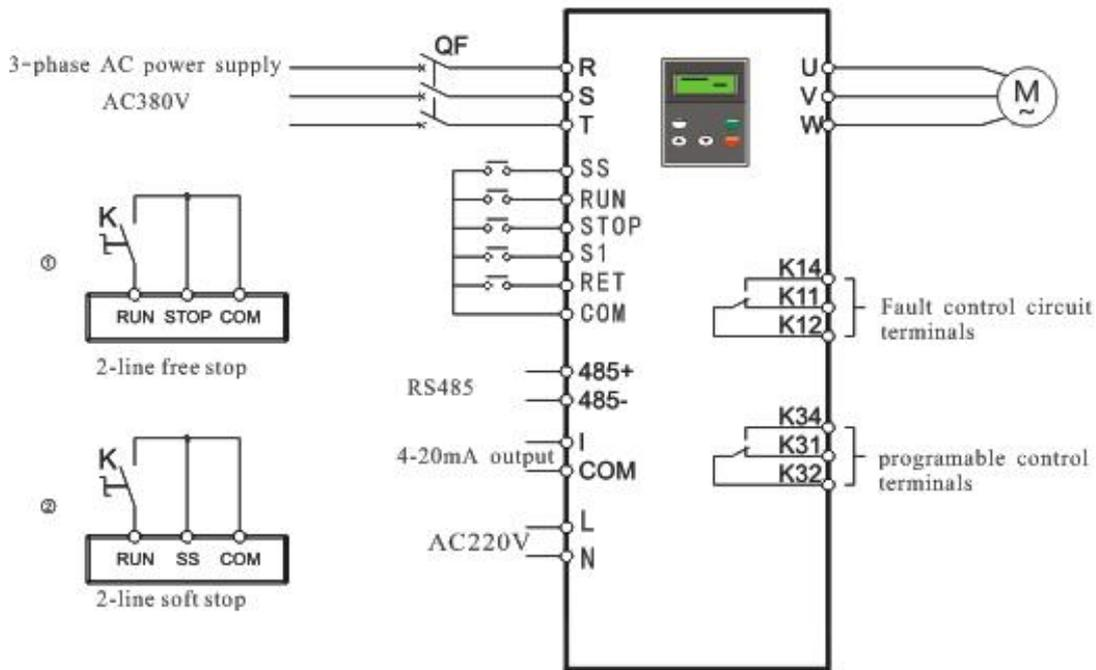

Figure 5-1
Note ①: There are two connecting mode, see figure 5-1
There are six power terminals for QDS1 series product. R, S, T (Power line) and U, V, W (Motor line).See figure 5-1